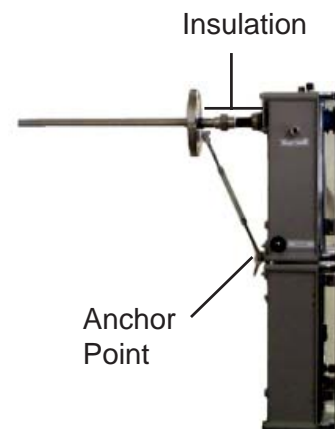

Figure 17
10. Connect free end of turnbuckle to anchor point at middle back of system (refer to Figure 17).